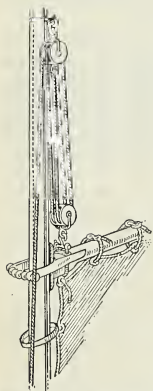
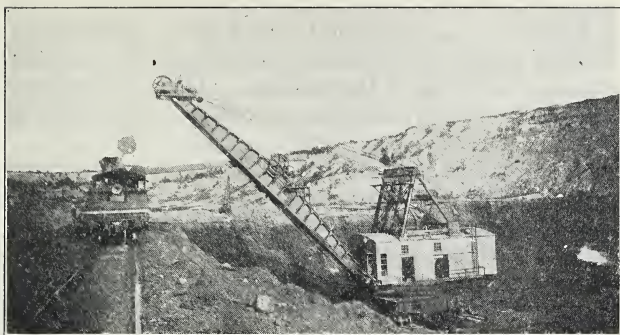

Fig. 117. Pulleys hoist sail.
Fig. 118. The steam shovel is a combination of simple machines. How many can you name?
**Pulleys.** Have you ever helped to hoist sail? (Fig. 117.) If not, perhaps you have watched the ropes run through the pulleys on a derrick (Fig. 118). One man with a block and tackle once pulled an automobile out of a ditch after six men failed to push it out with their shoulders.